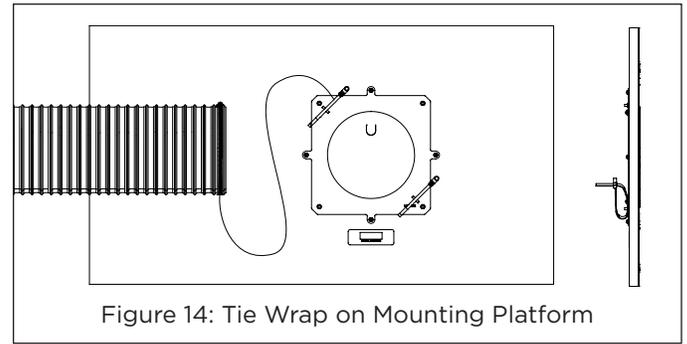

Figure 14: Tie Wrap on Mounting Platform
3. The mounting platform has a tie wrap installed on one of the pierce bridges on the back. Use this to tether a string from the PowerPipe clamp ring on the end of the pipe tube for retrieval after installation (see Figure 14).